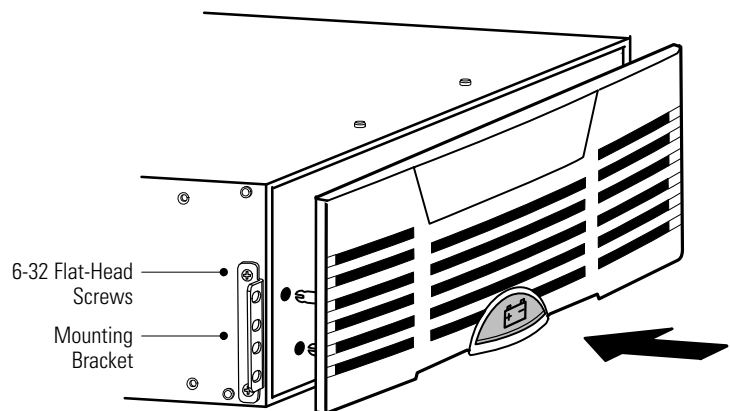

Figure 23. Installing the EBM Mounting Brackets
8. If the mounting brackets are not already installed, align the two mounting brackets with the screw holes on the side of the EBM and secure with the supplied 6-32 flat-head screws (see Figure 23).
Align the pins on the rear of the front cover with the openings in the EBM. Push the cover firmly into place. See Figure 23.